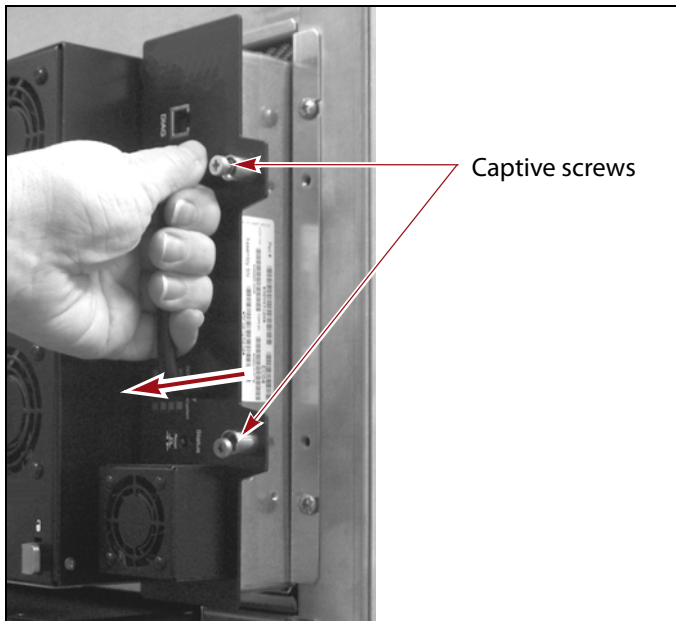

Figure 35 Remove a QIP or RIM.
- b.** Grasp the handle of the interface controller and pull it firmly out of the library (Figure 35).